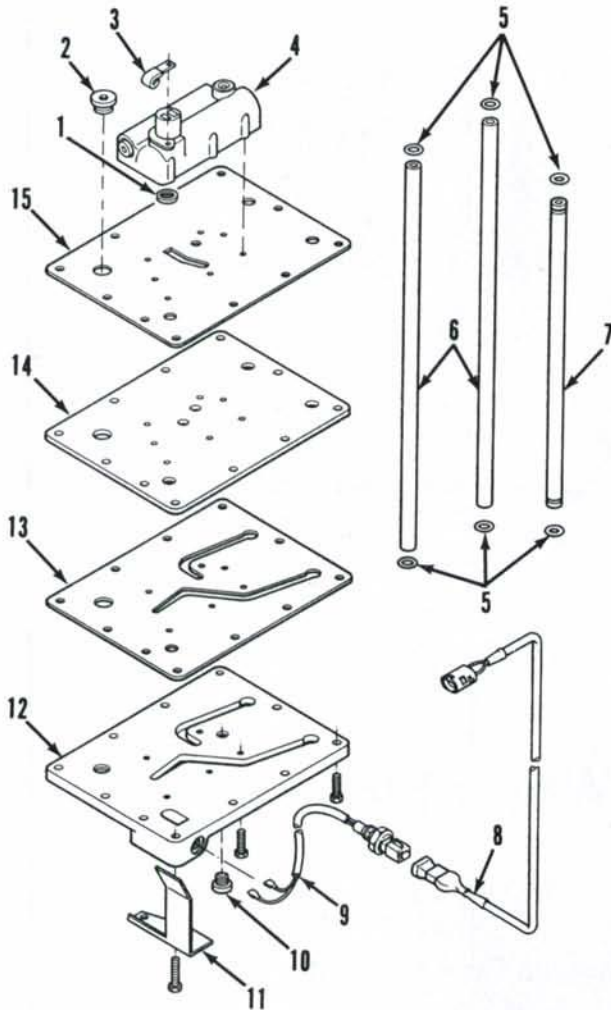
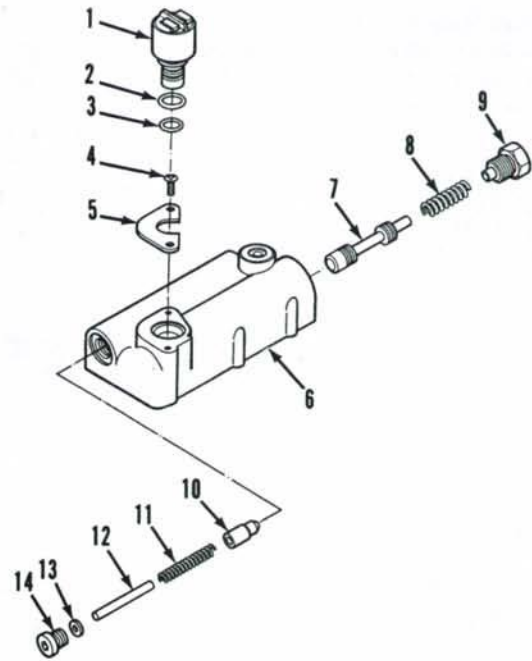
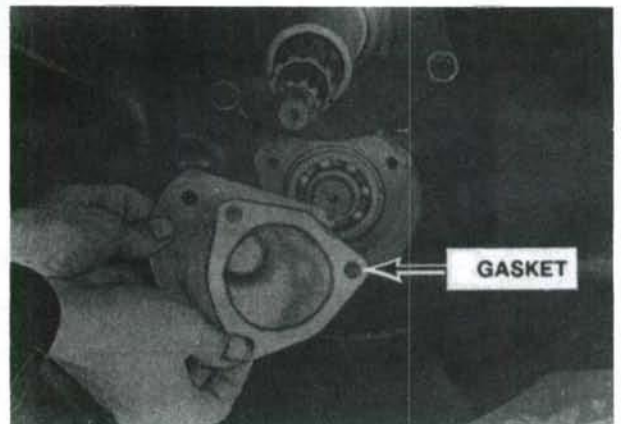
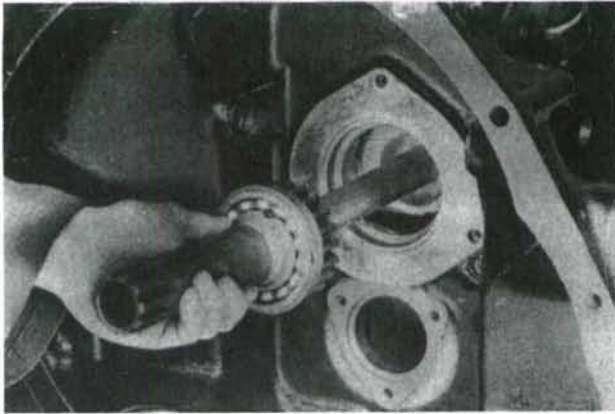

Fig. 86—View of Power Shift regulator (control) valve and bottom core plate with relative components removed from speed transmission gearbox.
Fig. 87—Exploded view of regulator (control) valve and solenoid.
Fig. 90—Unbolt and remove pto driven shaft end cover and metal gasket.
Fig. 91—With clutch release sleeve carrier removed, withdraw pto drive shaft and gear.
103. **R&R AND OVERHAUL.** The regulator (control) valve (4—Fig. 86) and bottom core plate (12) can be removed from tractor without removing the speed gearbox. All other service on the Power Shift unit requires removal of complete speed gearbox.
unbolt and remove solenoid wiring shield (11—Fig. 86). Disconnect the Power Shift cable (8) from solenoid cable (9) at connector. Unbolt bottom core plate (12) and remove from speed gearbox.
Disconnect wiring from solenoid, then unscrew union and remove wiring and union from core plate (12). Remove screws (4—Fig. 87), clamp (5) and solenoid (1) with "O" rings (2 and 3). Remove regulator valve end cap (14), washer (13), pin (12), spring (11) and valve (10). Remove plug (9), spring (8) and spool (7). Unbolt and remove regulator valve body (6), then remove filter screen (1—Fig. 86) from bottom of valve body. Remove gasket (15), separator plate (14) and
Clean and inspect all parts for excessive wear or other damage and renew as necessary. Body (6—Fig. 87), spool (7) and plug (9) are not serviced separately. When reassembling, use new "O" rings (2 and 3) and new gaskets (13 and 15—Fig. 86) and "O" rings (5) and reverse disassembly procedures.
Unbolt and remove bottom core plate (12—Fig. 86) and regulator valve (4) assembly, then remove oil inlet tube (7). Remove clutch release bearing and sleeve. Drive roll pins from release fork, withdraw release shaft and remove fork. Unbolt and remove pto driven shaft end cover and metal gasket as shown in Fig. 90. Remove snap ring from front end of driven shaft. Working through bottom core plate opening, remove snap ring from pto driven gear. Drive the driven shaft rearward out of bearing and remove bearing. Withdraw the shaft and have helper remove gear as shaft is removed. Unbolt and remove clutch release sleeve carrier, then withdraw pto drive shaft and gear as shown in Fig. 91. Remove snap ring from front end of countershaft and remove countershaft gear. Remove the two speed Power Shift unit from front of speed gearbox. See Fig. 92.